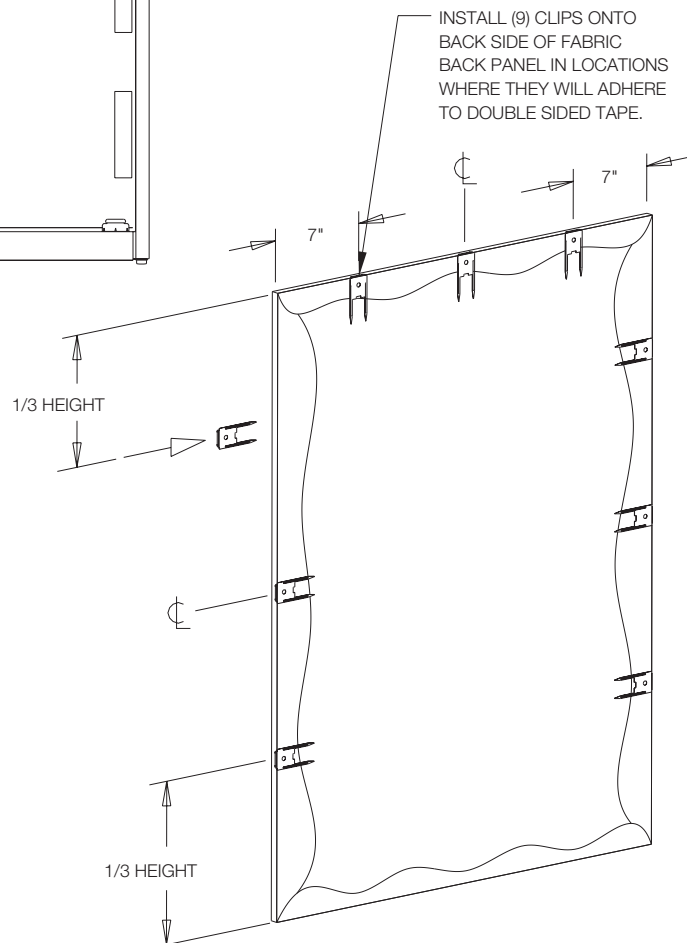

FIG. 3
Place (9) double sided tape firmly on outside perimeter of back panel on outside case. (FIG. 3)
Install fabric skin clips onto back side of fabric back insert in locations where they will adhere to the double sided tape. (FIG. 3)
With Drawer slides closed, place interlock cable (color coded red) into fingers connecting both LH slides vertically. (FIG. 3)